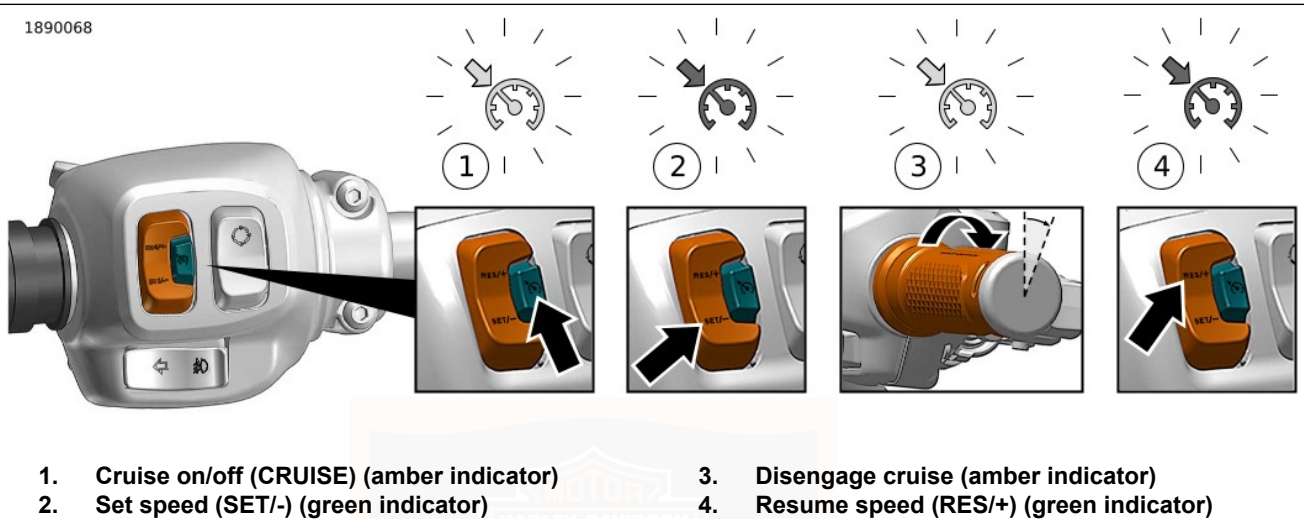

Figure 36. Cruise Control (typical)
See Figure 36. Press the CRUISE switch to turn on cruise (1). When on, the cruise icon in the speedometer face glows amber.
See Figure 36. When the motorcycle reaches your intended speed, press the SET/- switch to set the cruise speed (2). The amber cruise icon changes to green.
See Figure 36. To drop out of cruise speed, roll the throttle closed through the roll-off switch (3).
See Figure 36. If cruise has been disengaged yet the cruise indicator is amber, pressing the RES/+ switch resumes cruise (4). The icon glows green. The motorcycle automatically resumes cruise at the set speed.